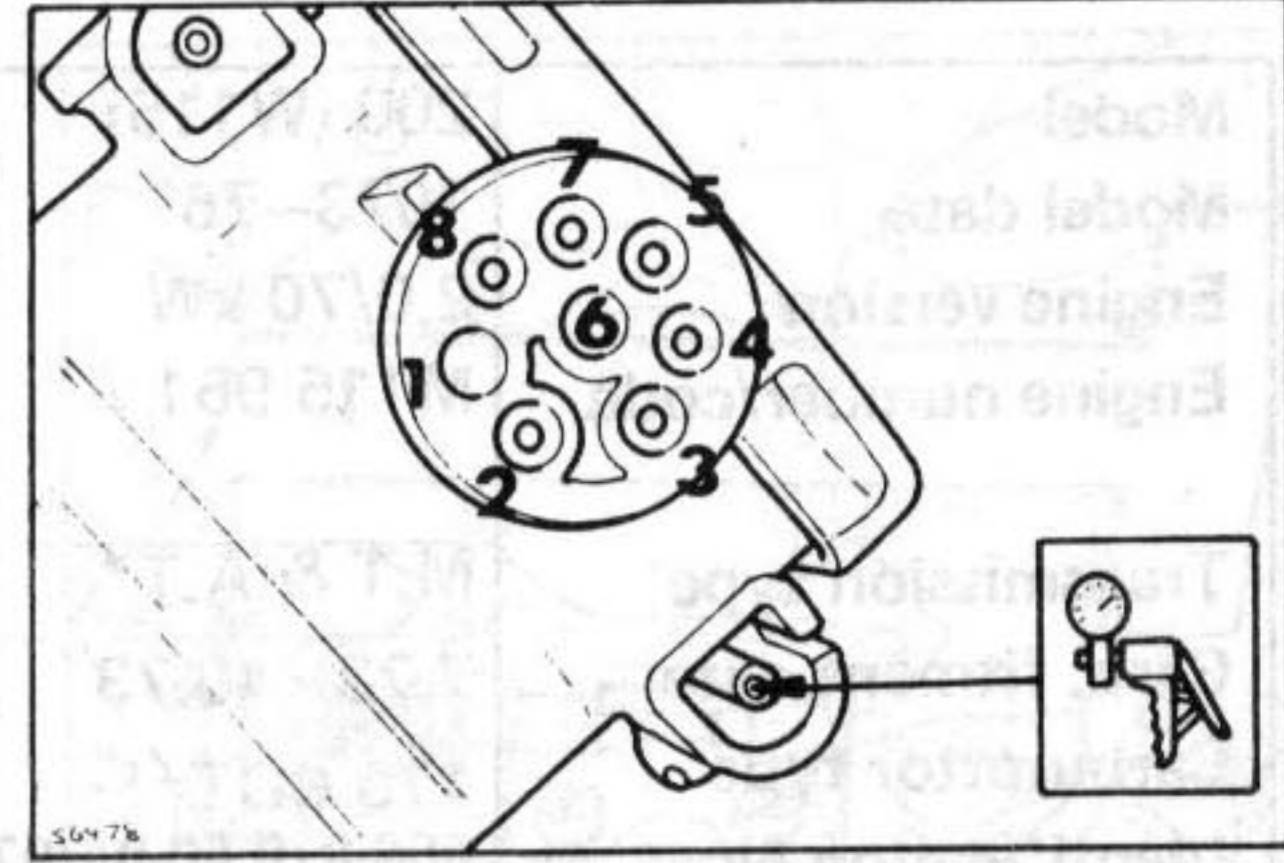

Fig. 8 Throttle valve regulator
- a) Bring throttle valve into overrun position by connecting a 12V supply to terminals 2 and 8 (Fig. 8).
- b) Connect vacuum pump to evacuating valve of throttle regulator (Fig. 8) and apply vacuum of 250 mbar until throttle regulator pushrod is fully retracted.
6.2 Throttle Valve Regulator (Fig. 8)